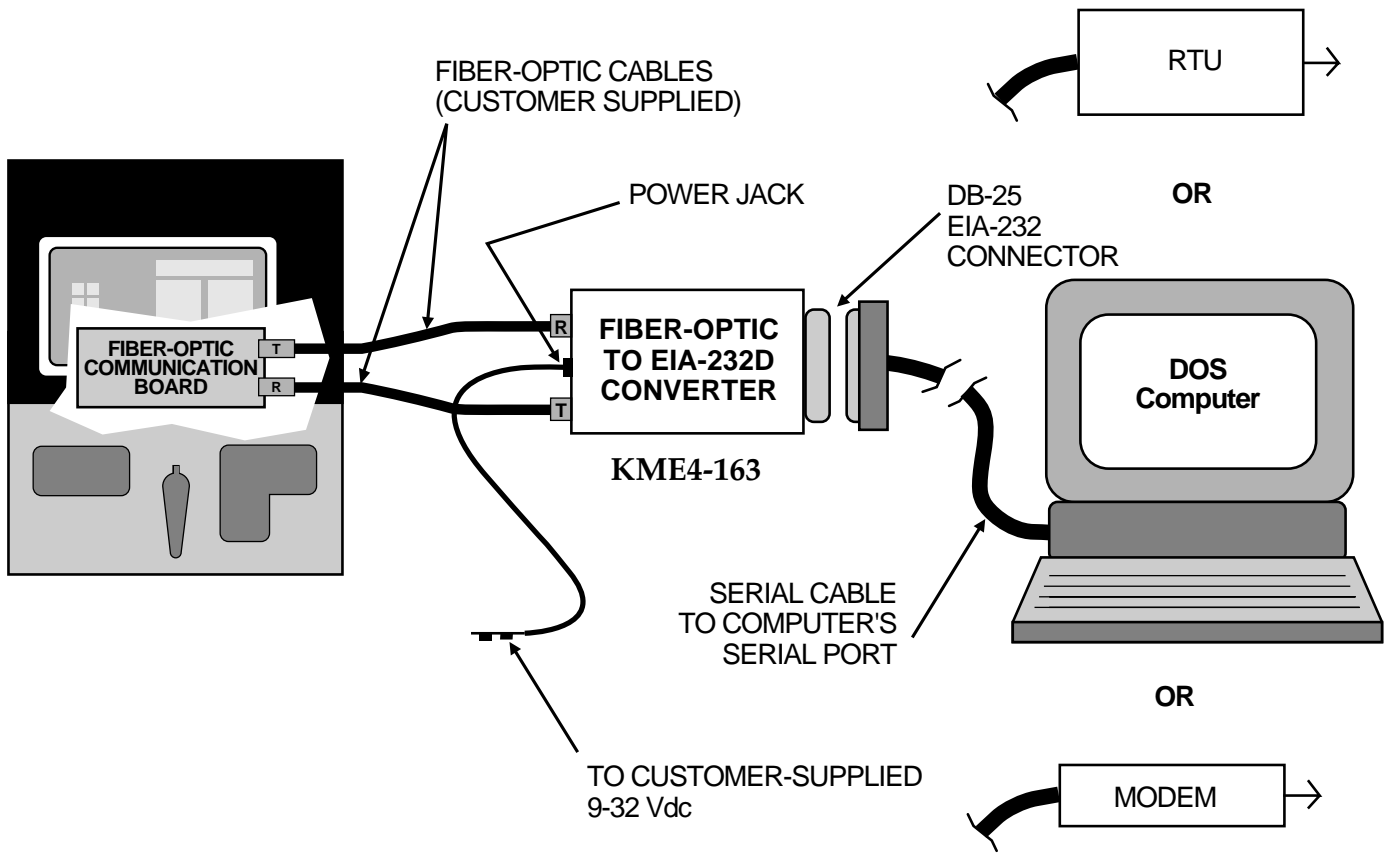

Figure 4. Communication connections.
Refer to Figure 4 for a diagram of communications connections. The fiber-optic communications board converts the output data from electrical pulses to light pulses and transmits the information through the “T” terminal. The board also converts data, received through the “R” terminal, from light pulses to electrical pulses for programming and operation of the Form 4C control.
7. Connect end of data bus cable (KME4-162) to the rear side of the front panel at terminal P20 as shown in Figure 4 and View A-A. Terminal P20 is located directly behind Terminal P4.
Refer to Figure 4 for cable routing.
8a. On Form 4C control without supervisory board accessory, install 18" plastic spiral wrap around data bus cable as shown in Figure 4.
Attach one fiber from the transmit terminal (labeled T) on the Fiber-Optic Communication Board to the receive terminal (labeled R) on the Fiber-Optic converter. See Figure 4.